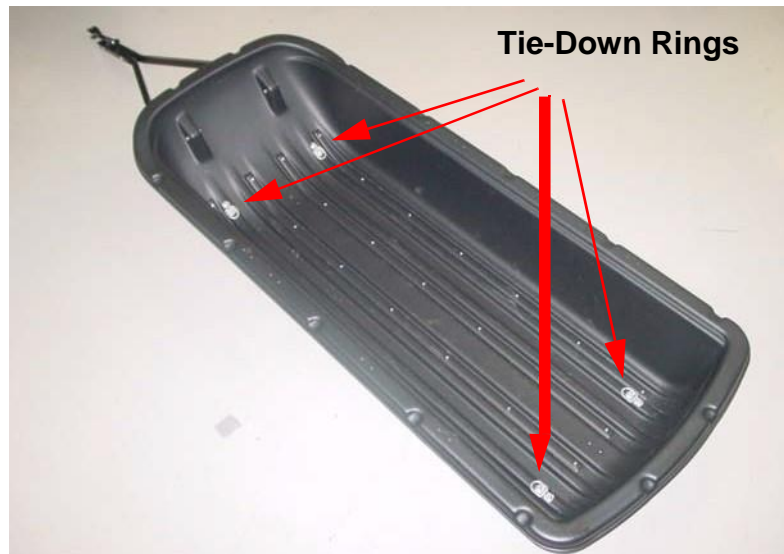

Figure 2-3: The IceMap SmartTow tie-down rings attached to the inside bottom of the sled to secure the ratcheting straps.
- 4) Attach the strap to the front tie-down (facing the tow vehicle) ring (see Figure 2-3).